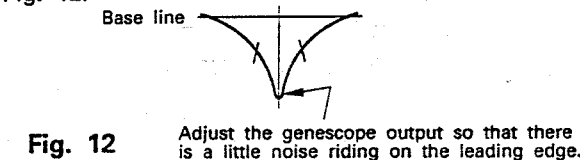

Fig. 12
1. Feed in a weak signal from the genescope. Adjust T202 for maximum gain and the waveform of Fig. 12.